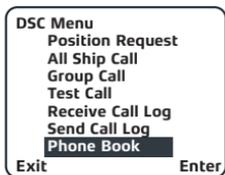

Figure 29
2. Rotate the multi-function knob to select **Phone Book** and press **Enter** (fig 29).